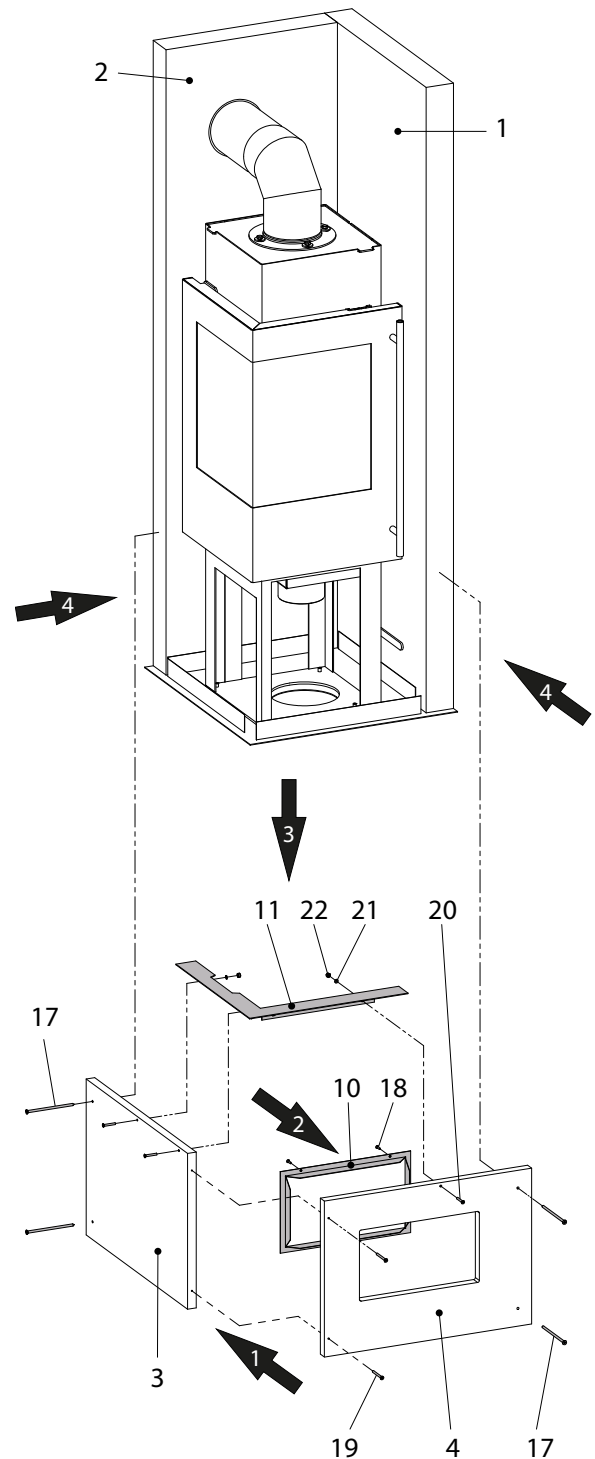

Fig.6
Before gluing together cladding panels 3+4 (Fig.6): Place cladding panels 3+4 on a level surface in their installation position and glue them together before screwing them together using 2 chipboard screws Ø5x60 (19). Insert the air grille frame (10) into the cladding (4) from the rear and fix it in place using 4 chipboard screws Ø4x20 (18). Screw plaster frame bottom (11) to cladding boards 3+4 using 3 countersunk screws M5x35 (20), washers (21) and hexagon screws M5 (22). Position the pre-assembled cladding panels 3+4 on the base plate, glue them together with insulation boards 1+2 and screw them together with 2 chipboard screws Ø6x140 (17).